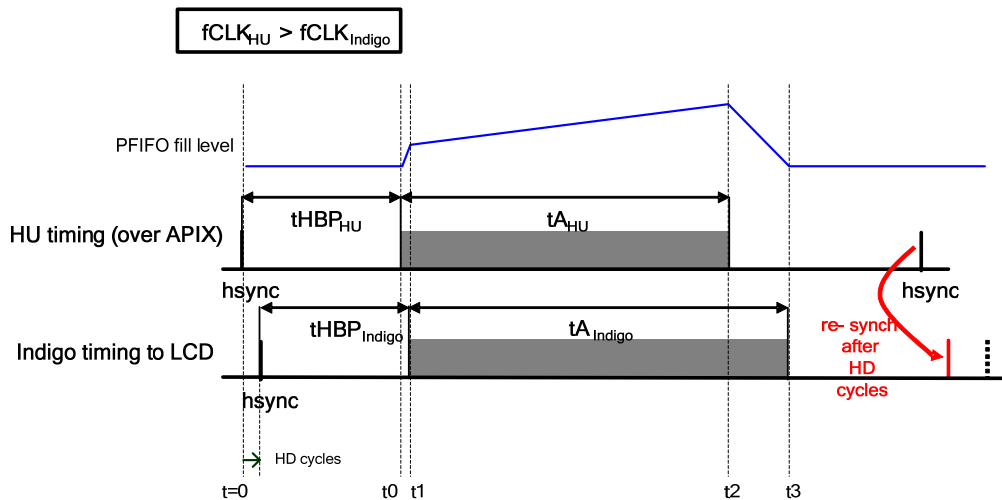

Figure 5-2 Relation of PixelFifo level and different clockspeeds (1/2)
In case that the transmitter (HU) pixelclock is running faster than the receiver (Indigo) the delay in the PixelFifo should be set to a low level so that the buffer can catch up the incoming data ($fCLK_{HU} > fCLK_{Indigo}$). Please see figure 5-2 for a schematic overview.